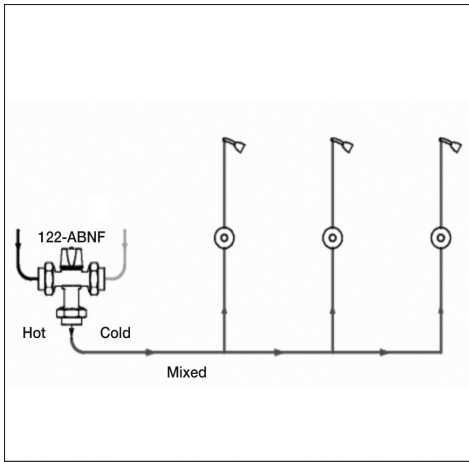

Figure 2 - ASSE 1069
3. Connect the water supply to valve as shown in Figure 2, 3 or 4 depending on application. Supply piping must be flushed clean before making connections to the valve.